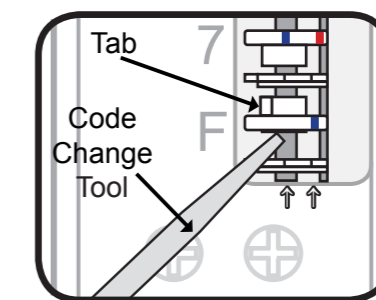

Fig.2
1. To turn off the free passage function – this is done by using a small amount of upwards force lifting the inner gear using the code change tool (part no.12) until the tab on the inner gear becomes visible (as per fig.2).